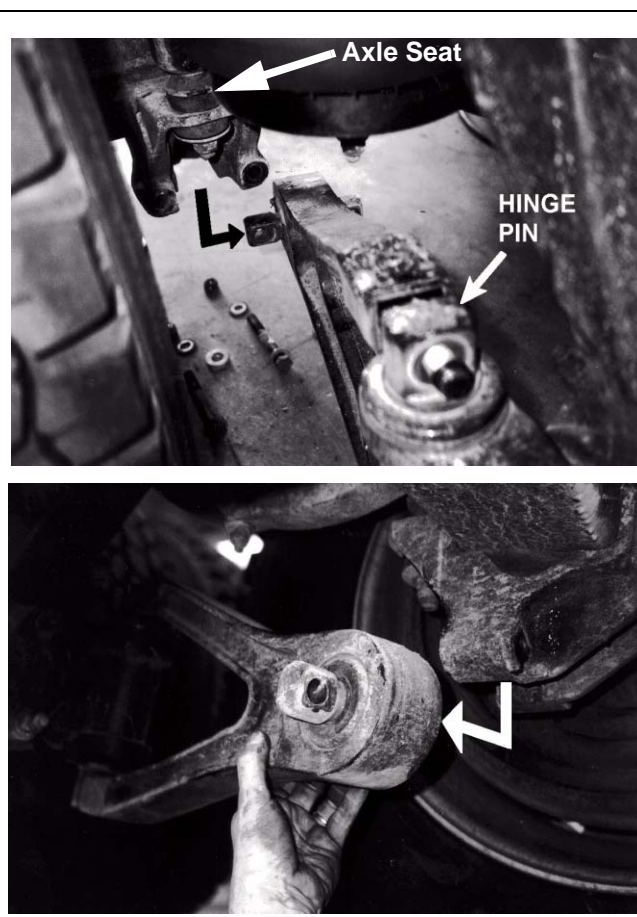

Figure 17-10
4. Rotate each swaybar arm down, out of the axle seat, and then rotate inboard to remove. See Figure 17-10.